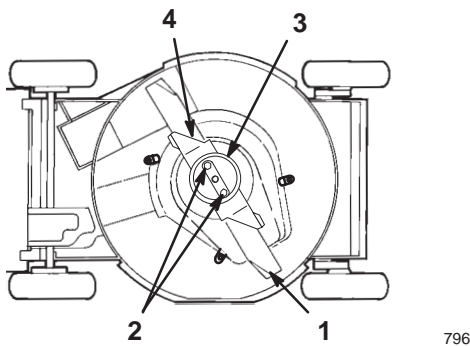

Figure 23
4. Tip the lawn mower onto its **right** side (Fig. 23).
2. Remove the blade nuts, the anti-scalp cup, the accelerator, and the blade (Fig. 23).
1. Install a sharp, balanced Exmark blade, the blade accelerator, the anti-scalp cup, and the blade nuts (Fig. 23).